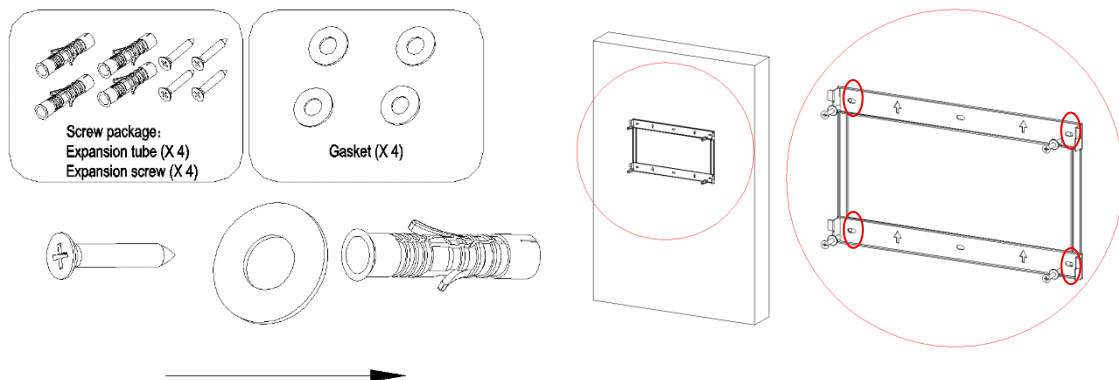

Figure 2.7 Stand Positioning
Step 2: first use the percussion drill (M10 drill) to drill holes in the wall with depth 65mm, then install and place the stand. (1. Insert the expansion pipe into the drilled hole. Then pass the tapping screw through the spacer and tighten it with the cross screwdriver), as shown in Figure 2.7.